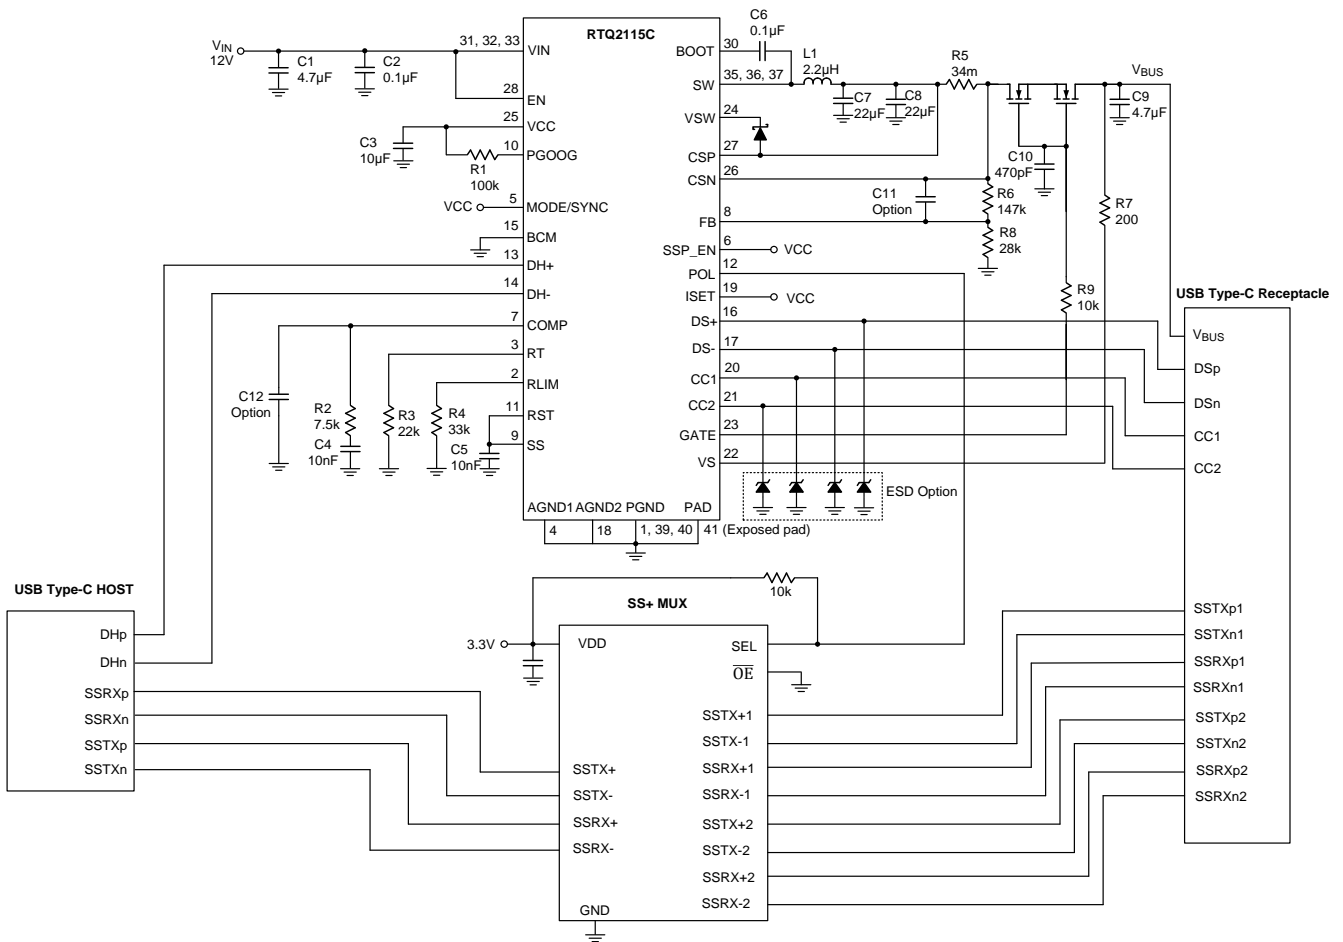

Figure 26. Polarity Application for SS+ MUX
- ▶ Power on VBUS. Reversible Type-C plug orientation is detected by the POL pin when a UFP is connected. By using POL the RTQ2115C implements the SS+ function with SS+ MUX as shown in Figure 26.